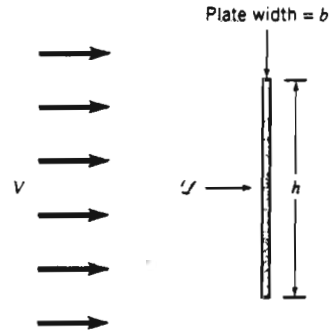

FIGURE P7.54
7.54 A very viscous fluid flows slowly past the submerged rectangular plate of Fig. P7.54. The drag,  $\mathcal{D}$ , is known to be a function of the plate height,  $h$ , plate width,  $b$ , fluid velocity,  $V$ , and fluid viscosity,  $\mu$ . A model is to be used to predict the drag and during a certain model test using glycerin ( $\mu_m = 0.03$  lb·s/ft2), with  $h_m = 1$  in. and  $b_m = 3$  in., it was found that  $\mathcal{D}_m = 0.2$  lb when  $V_m = 0.5$  ft/s. If possible, predict the drag on a geometrically similar larger plate with  $h = 4$  in. and  $b = 12$  in. immersed in the same glycerin moving with a velocity of 2 ft/s. If it is *not* possible, explain why.